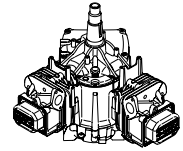

**Fig. 3 - Installing Piston And Connecting Rod**
3. Install #1 piston with arrow towards flywheel side, Fig. 3.